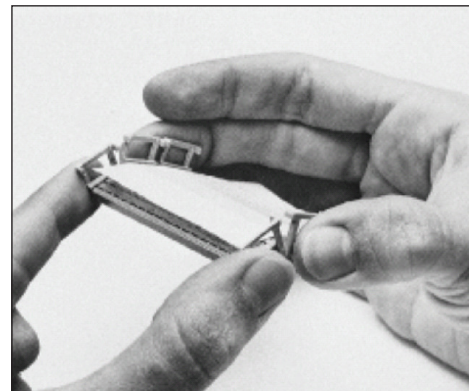

Figure 5
- 4.1 Grasp a 3M™ D Sub Connector cover strip between the thumb and forefinger of both hands, with the liner facing you. Rotate the outermost cover down against the adjacent cover on the strip, breaking it from the liner. Pull laterally away from the strip. Adhesive should be present on cover. (See Figure 5)